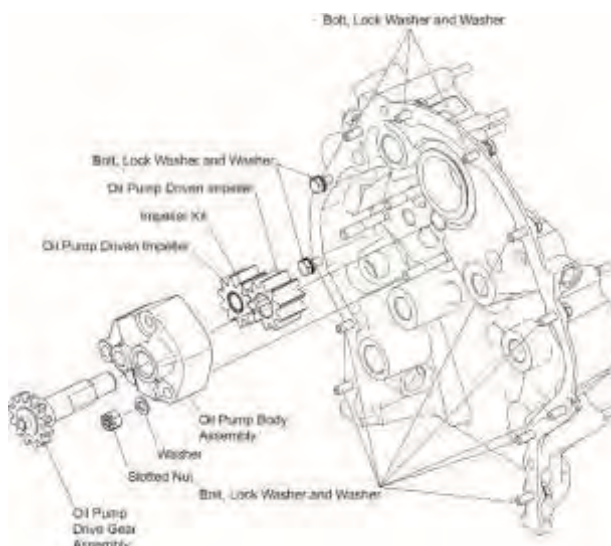

Figure 4
- C. Remove the oil pump drive gear assembly from the oil pump body assembly (Figure 4).
- B. Install the impellers in their respective compartments in the oil pump body assembly (Figure 4).
- D. Install the oil pump drive gear assembly into the oil pump body assembly and through impeller (Figure 4).